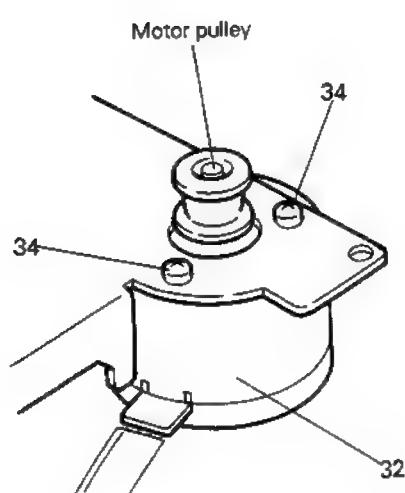

Fig. 7-24
**■ Capstan motor and Flywheel (Fig. 7-24 through 7-26)**
1. Place the cassette mechanism upside down to expose the bottom. (Fig. 7-24)
2. Remove three screws (37) retaining the FR bracket assembly from the chassis base. (Fig. 7-24)
3. Expand two pawls (B, C) retaining the FR bracket assembly in the direction of the arrow to remove them. (Fig. 7-24)